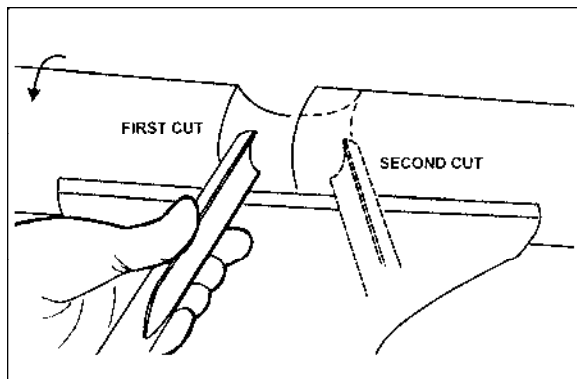

Figure 35
1. Use a spindle gouge. With the flute of the tool at 90 degrees to the workpiece, touch the point of the tool to the workpiece and roll in towards the bottom of the cove. See Figure 35. **Stop at the bottom; attempting to go up the opposite side may cause the tool to catch.**